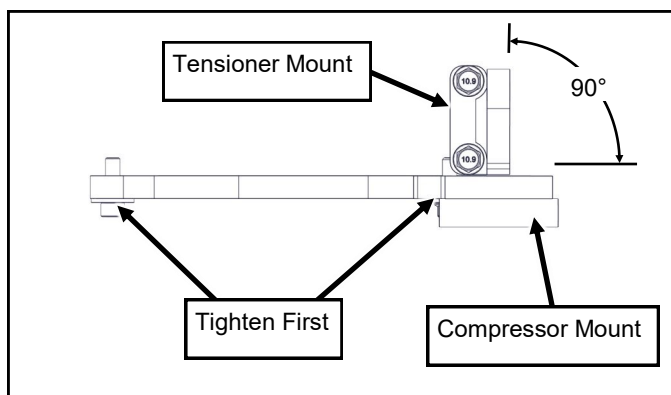

Fig. 1.4 (Torque Mounting Screws)
- 1.40 Torque all three screws on the compressor mount to 19 ft-lbs (26 N-M). Using a square, adjust the tensioner mount to be perpendicular to the compressor mount and torque the two tensioner mount screws to 19 ft-lbs (26 N-M). See Figure 1.4.